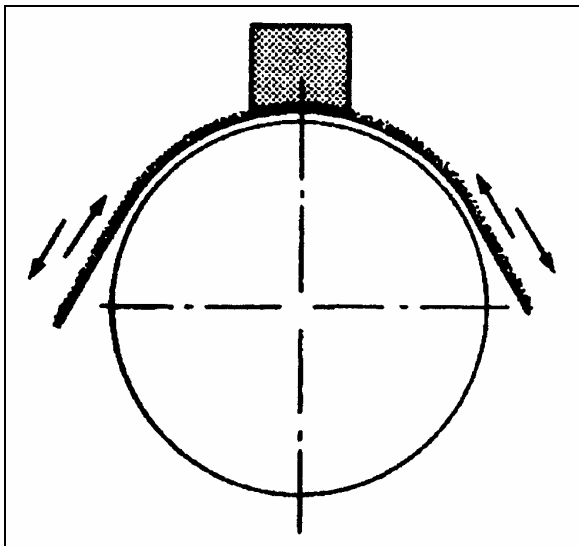
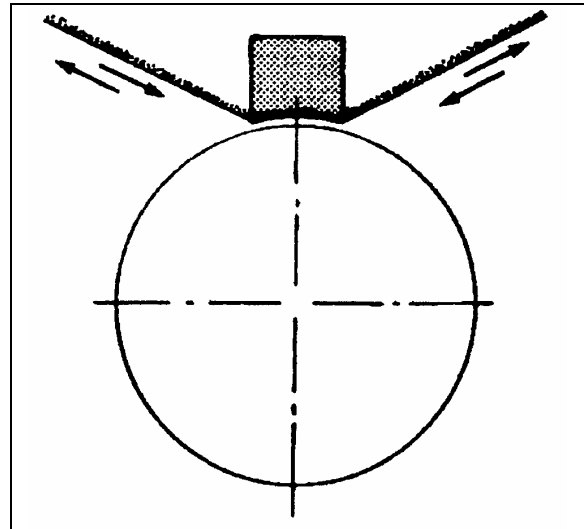

FIGURE 28: PROPER GRINDING TECHNIQUE 22317
FIGURE 29: IMPROPER GRINDING TECHNIQUE 22318
- a) Grinding with abrasive cloth medium grit (sandpaper) (grit 60) applied to a part of the commutator by hand. The new brushes installed in their brush holder and pressing against the cloth, one makes oscillate the rotor until complete grinding of the seating faces (Refer to figure 28). It is necessary to avoid raising the cloth under the brushes otherwise it would result, after grinding, to reduce and badly definite surfaces (Refer to figure 29).